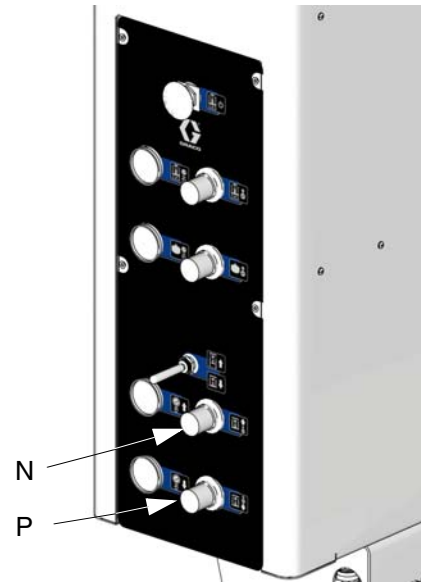
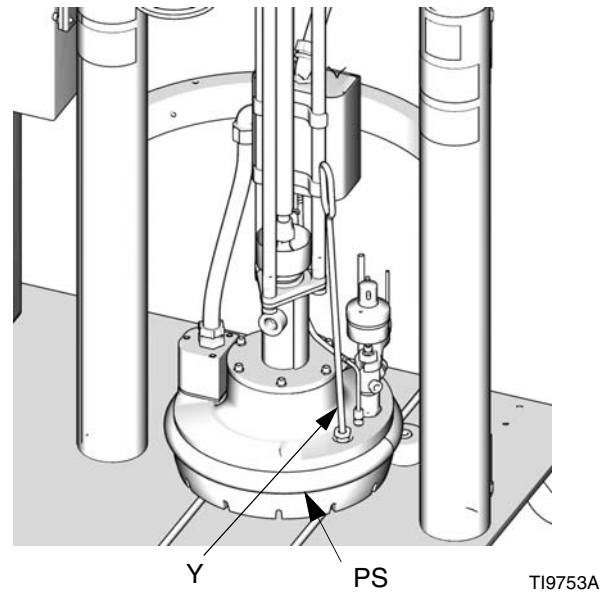

FIG. 19: Pneumatic Control Panel
FIG. 20: Platen
1. Open the system bleed-type master air valve (A).
3. Slowly turn the ram UP regulator (N) clockwise until the ram begins to rise. See FIG. 19.
5. Apply a thin coating of high temp grease lubricant (part no. 115982) to the platen seals (PS). See FIG. 20.
9. Remove the platen bleed stick (Y). See FIG. 20.
11. See FIG. 19. Slowly turn the ram DOWN regulator (P) clockwise to approximately 5-10 psi (34-69 kPa, 0.3-0.7 bar). The platen will begin to lower into the pail.
12. After the platen seal (PS) enters the material pail, adjust the ram DOWN air regulator (P) to 30-50 psi (207-345 kPa, 2.1-3.4 bar). See FIG. 19 and FIG. 20.
13. When the ram stops, reinsert the platen bleed stick (Y) and hand tighten. See FIG. 20.